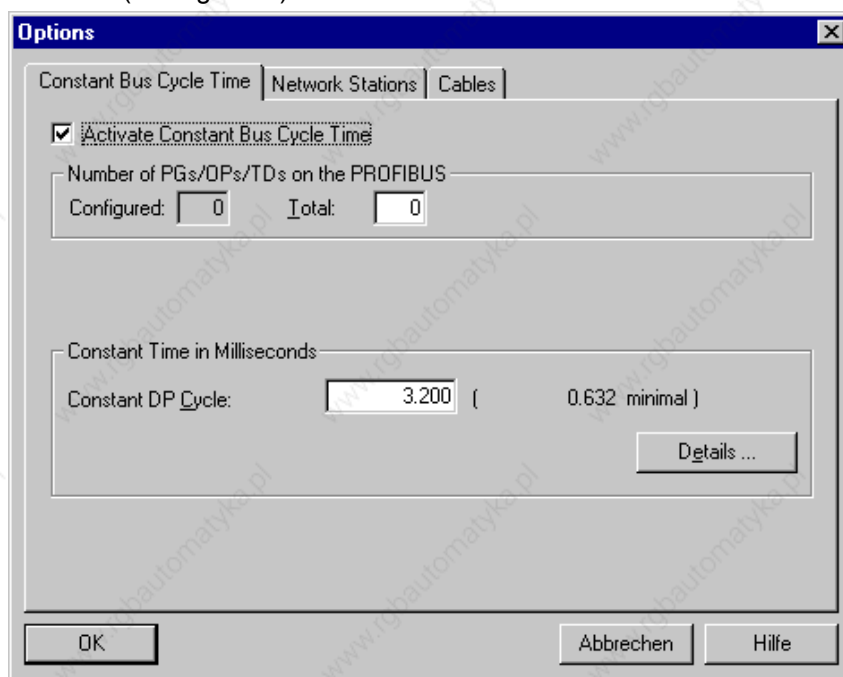

Fig. 9-52 Activation of the equidistance on the CPU
- ◆ Activate "Equidistant Profibus" in the window "Constant Bus Cycle Time" (cf.: Fig. 9-52).